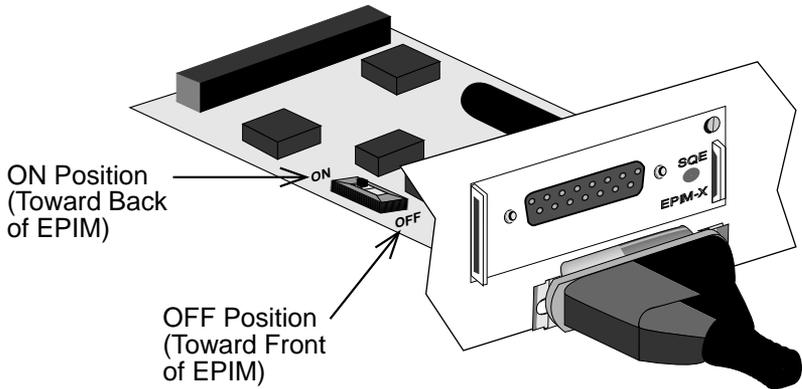

Figure 3-5. The EPIM-X
2. Attach one end of an AUI cable, no longer than 50 meters in length, to the port located on the EPIM-X (Figure 3-5) and the other end to the intended node.